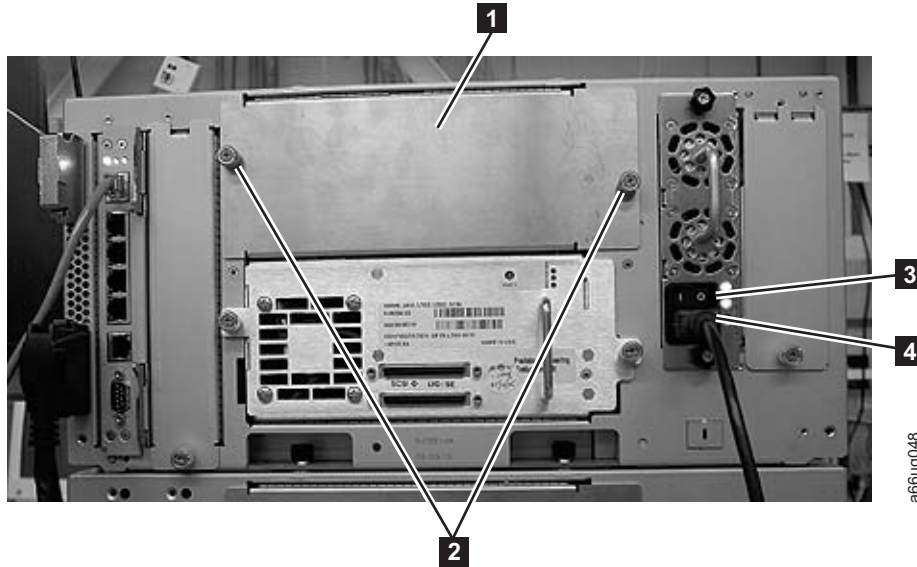

Figure 11-3. Control module with one SCSI drive and one cover plate
Attention: First, disconnect the power cord from the power source. Then, disconnect the power cord from the power supply receptacle (**4** in Figure 11-3).
- a. Locate the module’s vacant drive slot. Detach the cover plate over the drive slot by turning the two thumbscrews (**2** in Figure 11-3) counterclockwise to loosen them and then removing the cover plate (**1**).